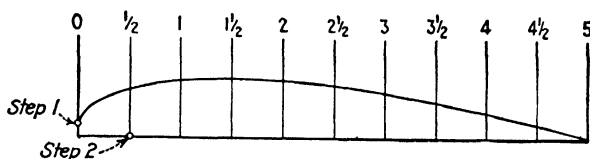

Fig. 180.
Step 1.—At station 0, the lower camber is $\frac{9}{64}$ in. above the datum line. Notice that this is the same point as that of the upper camber (see Fig. 180).
Step 2.—At station $\frac{1}{2}$ in., the lower camber is 0 in. high, that is, flat on the datum line as shown in Fig. 180.